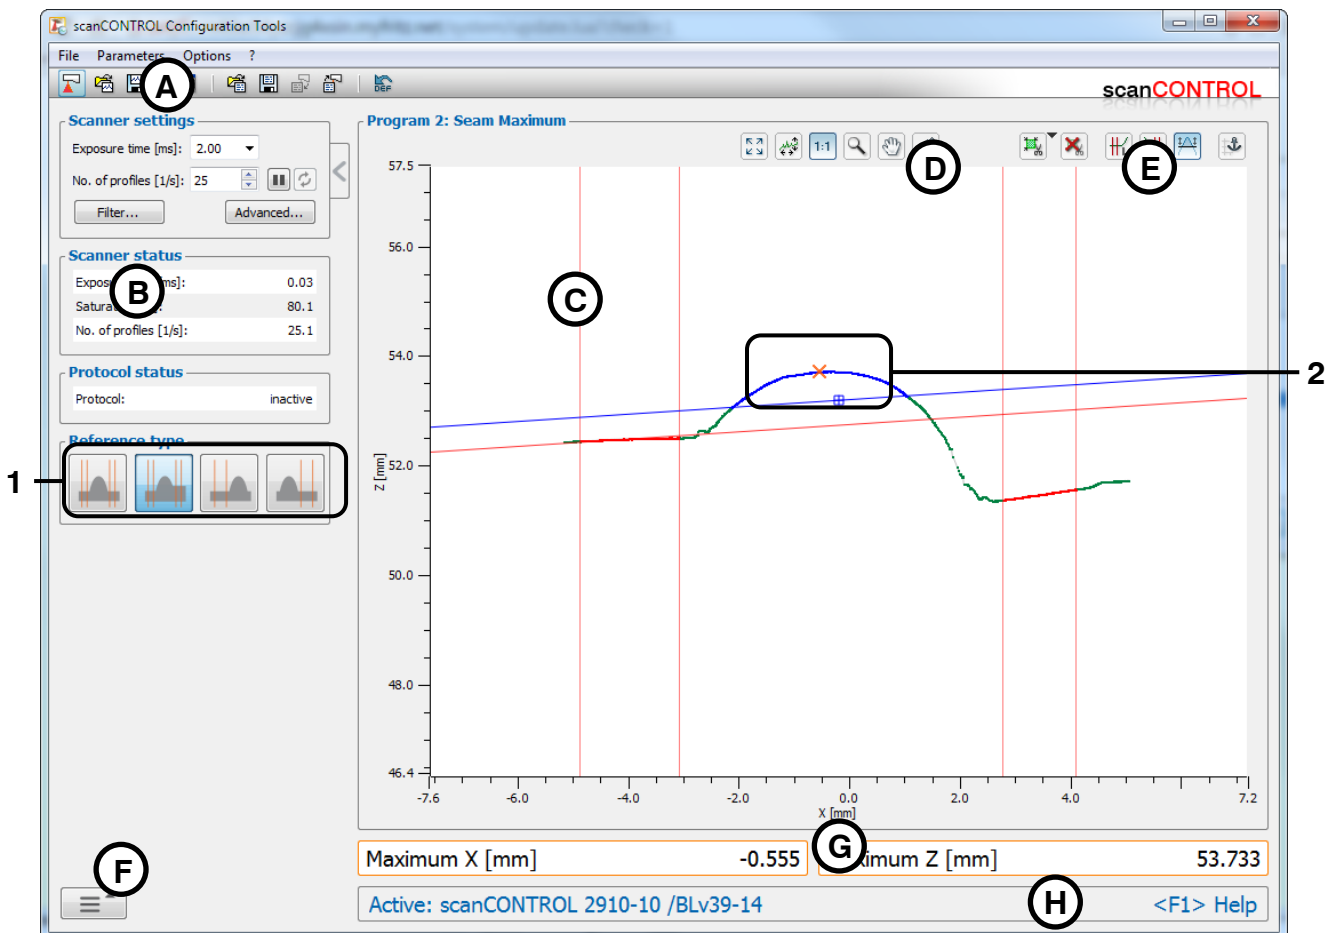

Fig. 4.27: "Seam Maximum" measuring program
- Define the type of the heightening (see Fig. 4.27 and Chapter 3.13.1):